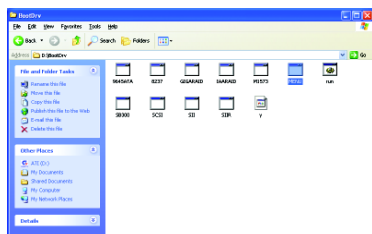

Fig.1
Step 2: Go to My Computer and right-click the CD-ROM icon (This procedure assumes Drive D) and select Open. Then you will see folders and files contained in the driver CD. Double-click the BootDrv folder icon and select **MENU.exe** (refer to Fig.1).